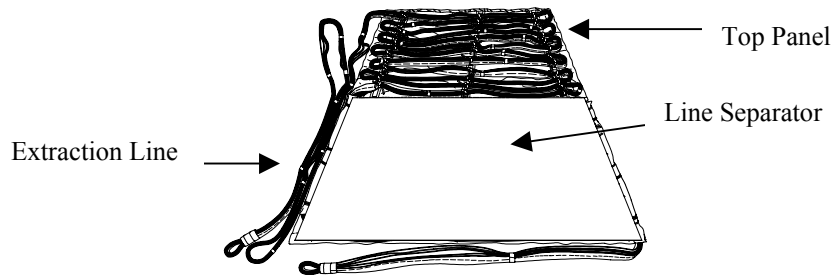

Figure 10. Line Separator in Place.
- a. Place a 36 x 38-inch sheet of kraft paper (line separator) on top of stowed extraction line of bottom panel (figure 10).